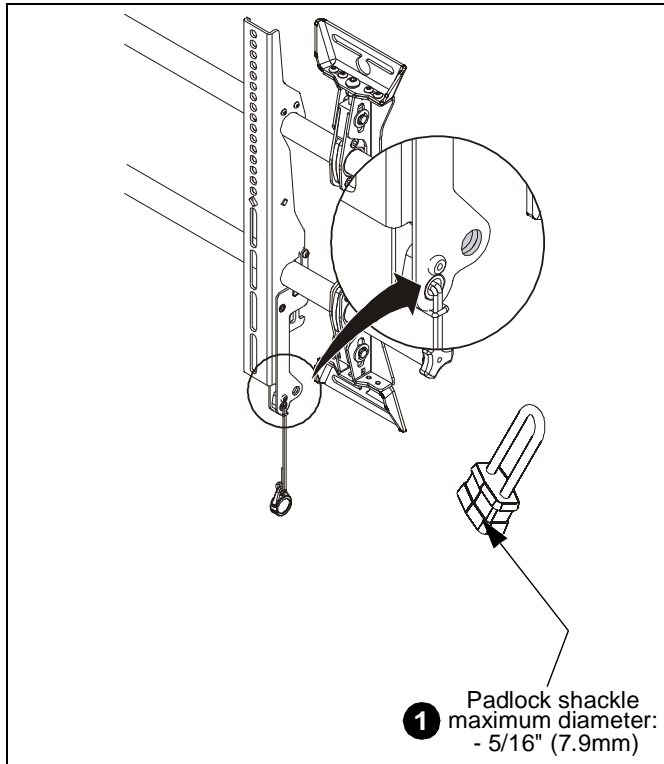

Figure 11
1. Add padlock (not included) to interface bracket to complete security. (See Figure 11)